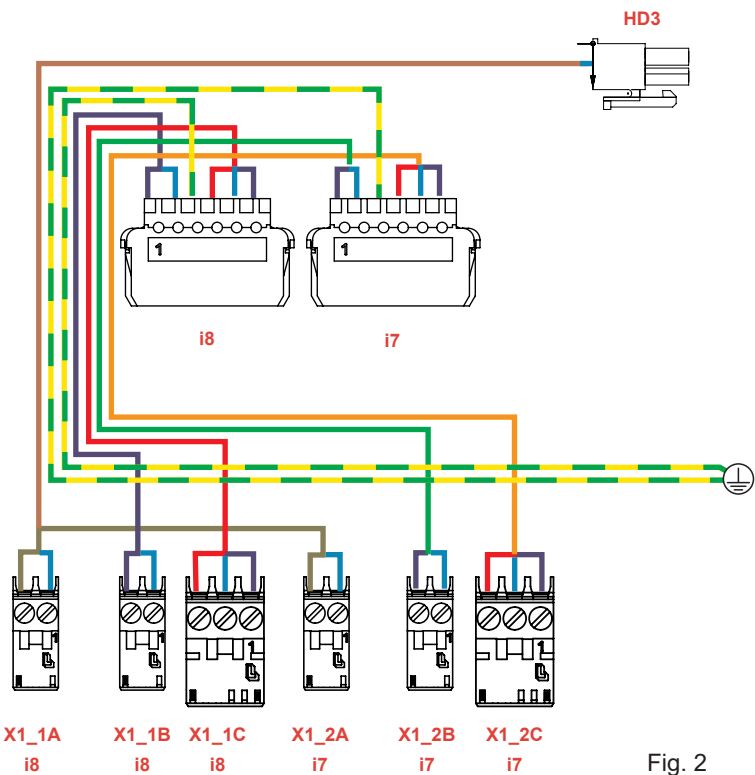

Fig. 2
2. Dual Circuit Harness - Shown in Fig 2.